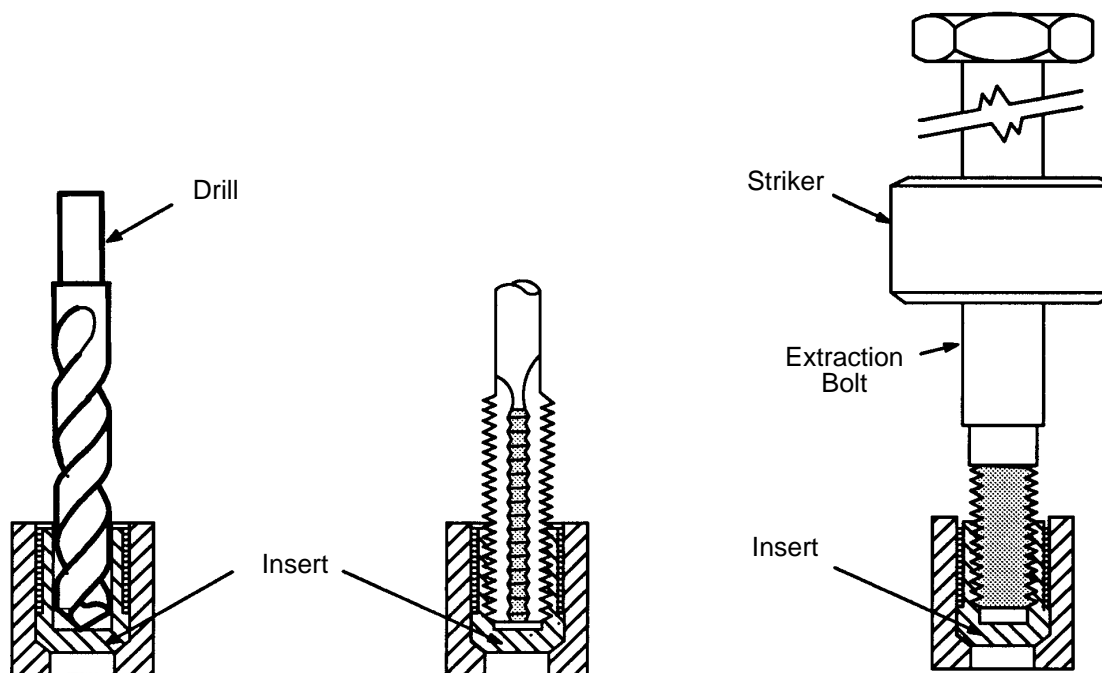

Figure 7 - Removal of Lee Plugs
| Figure 7 - Removal of Lee Plugs | 10 |
5.4.1 If necessary, remove Lee Plugs as follows (see Figure 7):